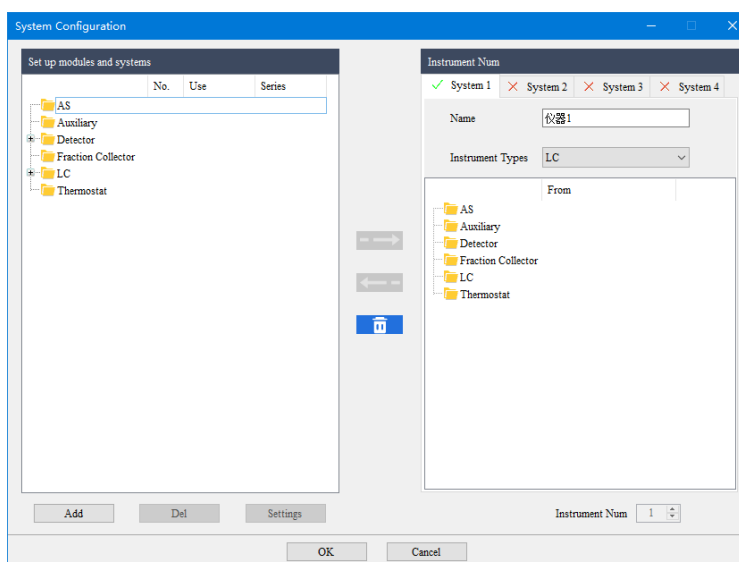
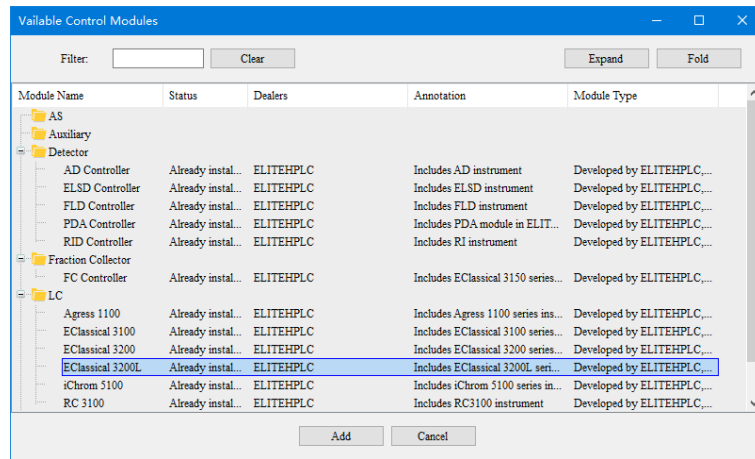

Fig.3-8 Configuration Interface 02
Fig.3-9 Configuration Interface 03
2) The system configuration interface is displayed. As shows in Figure 3-8:
3) Click the "Add" button at the lower left corner of interface Fig. 3-8, and the interface as shown in Fig.3-9 will pop up: